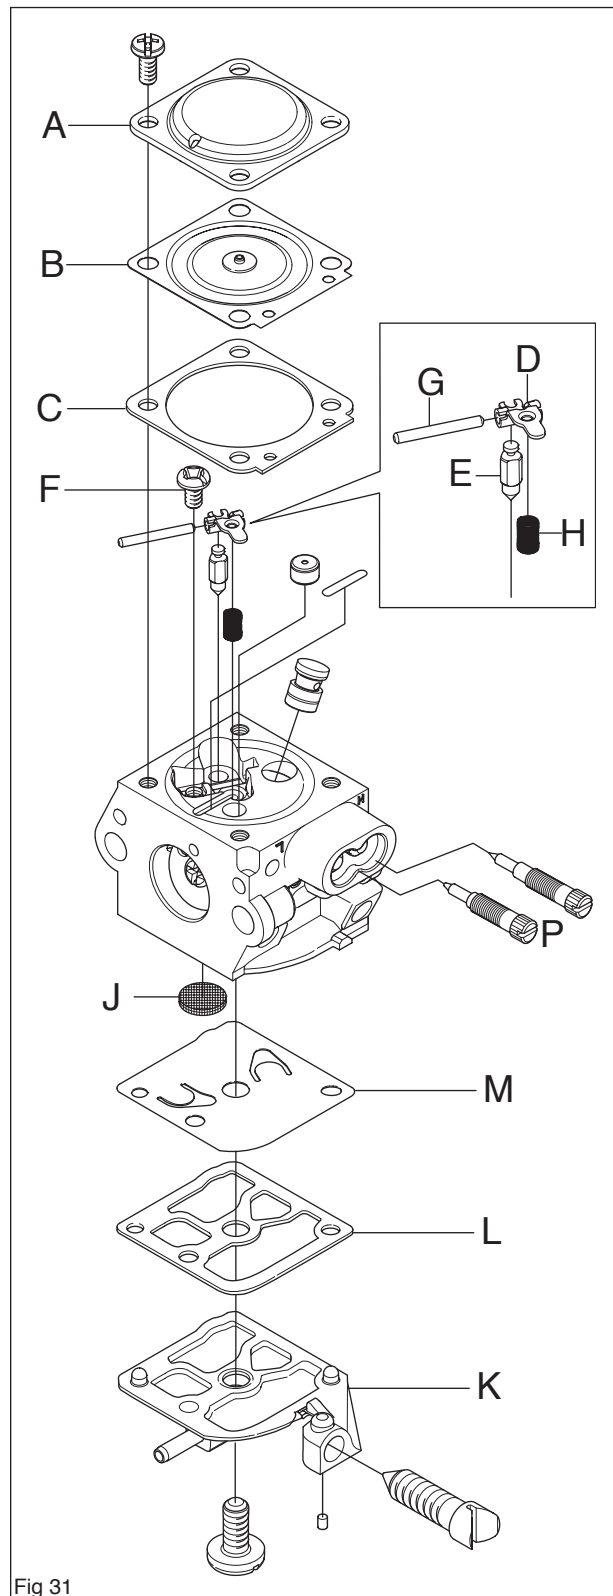

Fig 31
(see figure 31)
3. That the needle valve (D) and its lever (E) are not worn. (see figure 31)
4. That the fuel screen (J) is whole and clean. (see figure 31).
5. That the tips of the high (N) and low jet screws (P) are not damaged. (see figure 31)